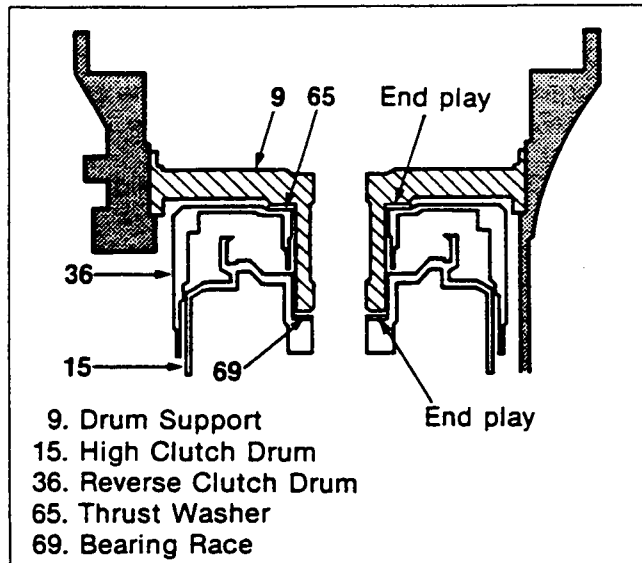

Figure 271. End Play Measurement (1)
(Figures 271, 272, 273, 274, 275 and 276)
- End play is front-to-back movement of the rotating parts in the automatic transmission. The gap where movement occurs must be adjusted to the proper end play (figure 271).